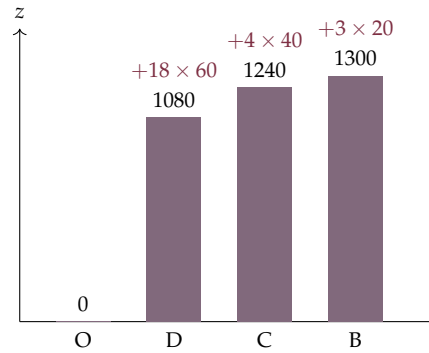

Figure 27: The value of z along the walk of the drone workshop: each pivot adds (ratio) $\times$ (entering number).
2. **z never decreases.** At each pivot, z grows by (smallest ratio) $\times$ (size of the entering number): see Figure 27.